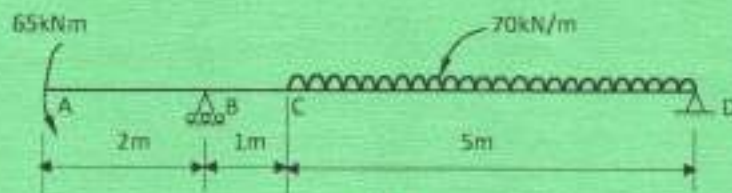

Fig. 2
3. (a) Analyse the beam shown in figure 2 for reactions, shear forces, bending moments and hence sketch the shear forces, bending moments diagrams indicating all the critical values. (10 marks)